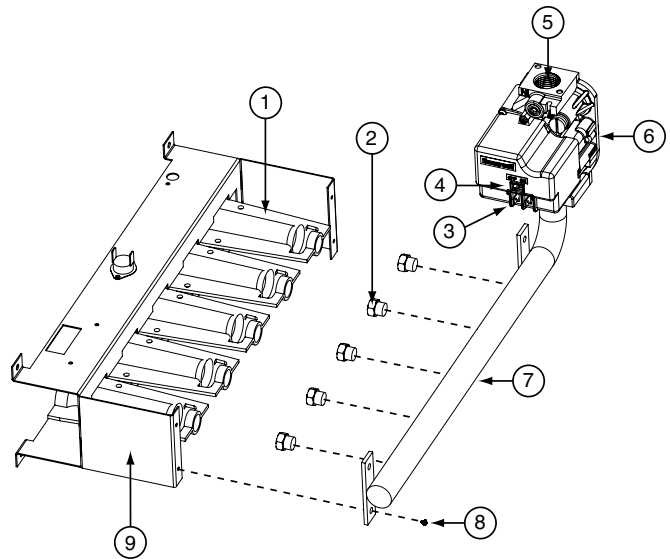

Figure 1. Burner and Manifold Assembly
5. Move the gas valve ON/OFF switch (4) to the "OFF" position (Figure 1).
6. Remove the wires from the terminals (3) of the gas valve (6).
7. Remove the supply gas piping from the gas valve inlet (5).
8. Carefully remove four screws (8) securing the gas manifold assembly (7) to the burner assembly (9).
9. Set aside the screws (8) and remove the gas manifold assembly (7) from the appliance.